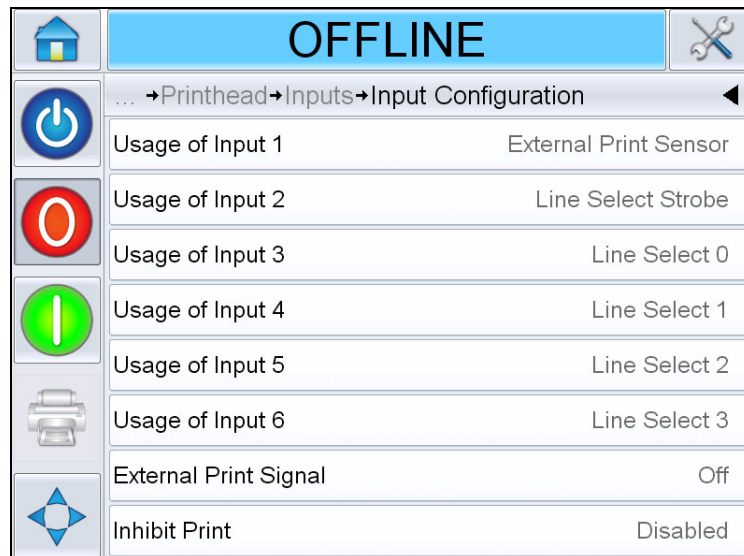

Figure 4-10: Input Configuration screen
- Input Configuration: Displays the usage of inputs 1-6 and the status of line inputs 0-3, Print signals, Job queue and so on (see Figure 4-10).